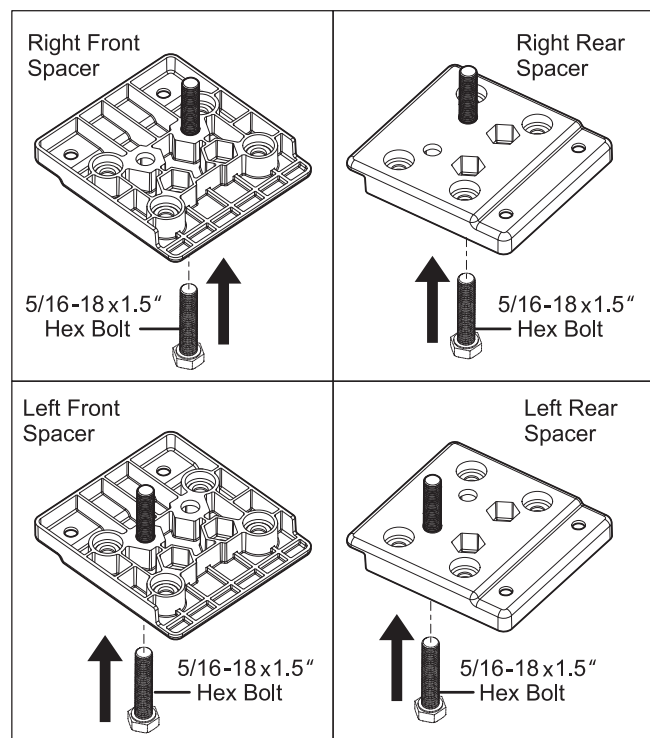

Figure 2-21.
4. Remove plastic spacers and Hex Bolt 5/16-18UNC x 1.5" from the box and assemble the two together as shown in Figure 2-21.